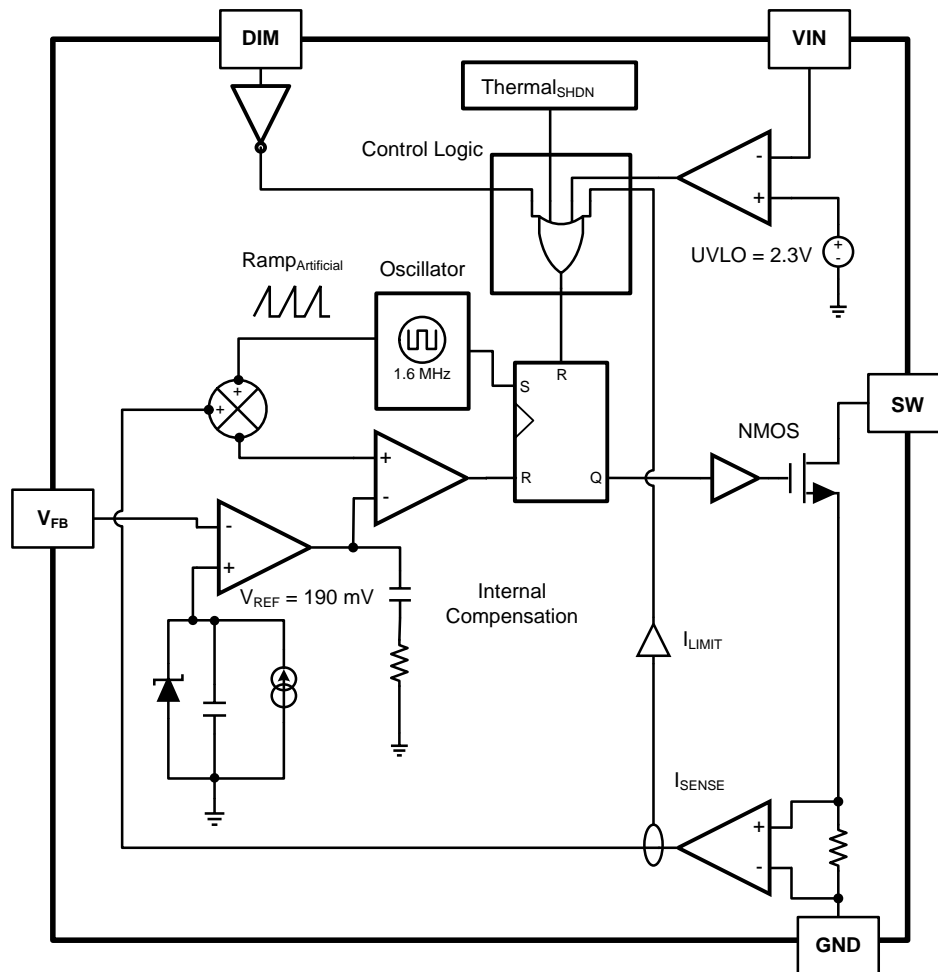

Figure 13. Simplified Block Diagram
The LM3410 is a constant frequency PWM, boost regulator IC. It delivers a minimum of 2.1A peak switch current. The device operates very similar to a voltage regulated boost converter except that it regulates the output current through LEDs. The current magnitude is set with a series resistor. This series resistor multiplied by the LED current creates the feedback voltage (190 mV) which the converter regulates to. The regulator has a preset switching frequency of either 525 kHz or 1.60 MHz. This high frequency allows the LM3410 to operate with small surface mount capacitors and inductors, resulting in a DC/DC converter that requires a minimum amount of board space. The LM3410 is internally compensated, so it is simple to use, and requires few external components. The LM3410 uses current-mode control to regulate the LED current. The following operating description of the LM3410 will refer to the Simplified Block Diagram (Figure 13) the simplified schematic (Figure 14), and its associated waveforms (Figure 15). The LM3410 supplies a regulated LED current by switching the internal NMOS control switch at constant frequency and variable duty cycle. A switching cycle begins at the falling edge of the reset pulse generated by the internal oscillator. When this pulse goes low, the output control logic turns on the internal NMOS control switch. During this on-time, the SW pin voltage ( $V_{SW}$ ) decreases to approximately GND, and the inductor current ( $I_L$ ) increases with a linear slope.  $I_L$  is measured by the current sense amplifier, which generates an output proportional to the switch current. The sensed signal is summed with the regulator's corrective ramp and compared to the error amplifier's output, which is proportional to the difference between the feedback voltage and  $V_{REF}$ . When the PWM comparator output goes high, the output switch turns off until the next switching cycle begins. During the switch off-time, inductor current discharges through diode D1, which forces the SW pin to swing to the output voltage plus the forward voltage ( $V_D$ ) of the diode. The regulator loop adjusts the duty cycle (D) to maintain a regulated LED current.